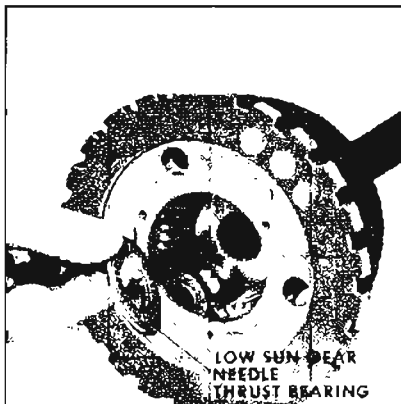

Figure 5-250
6. Remove low sun gear needle thrust bearing. See Figure 5-250.